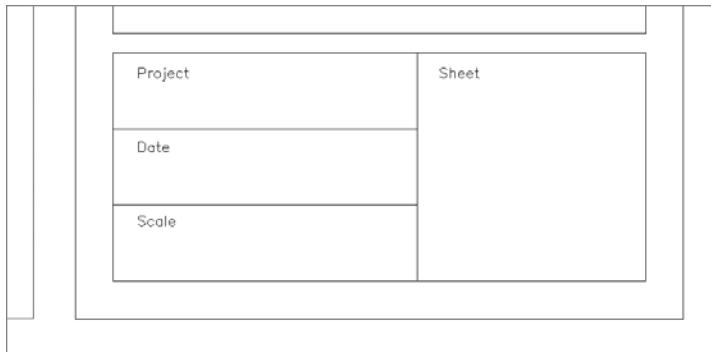

FIGURE 8.53 A close-up of the architectural drawing template
3. Zoom into the title block on the lower part of the drawing, as shown in Figure 8.53.